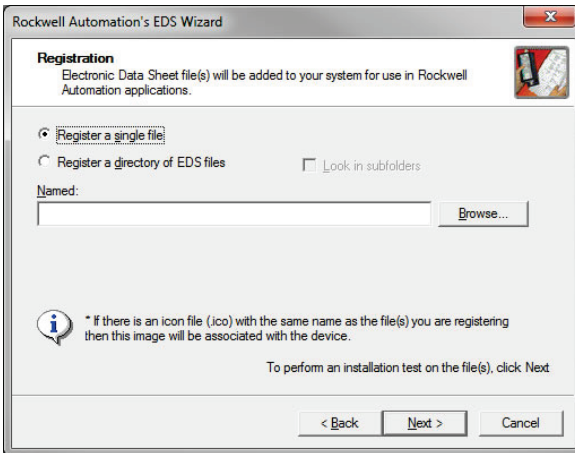

Figure 44: EDS Registration
- 4) The "Registration" dialog will appear. Refer to Figure 44.